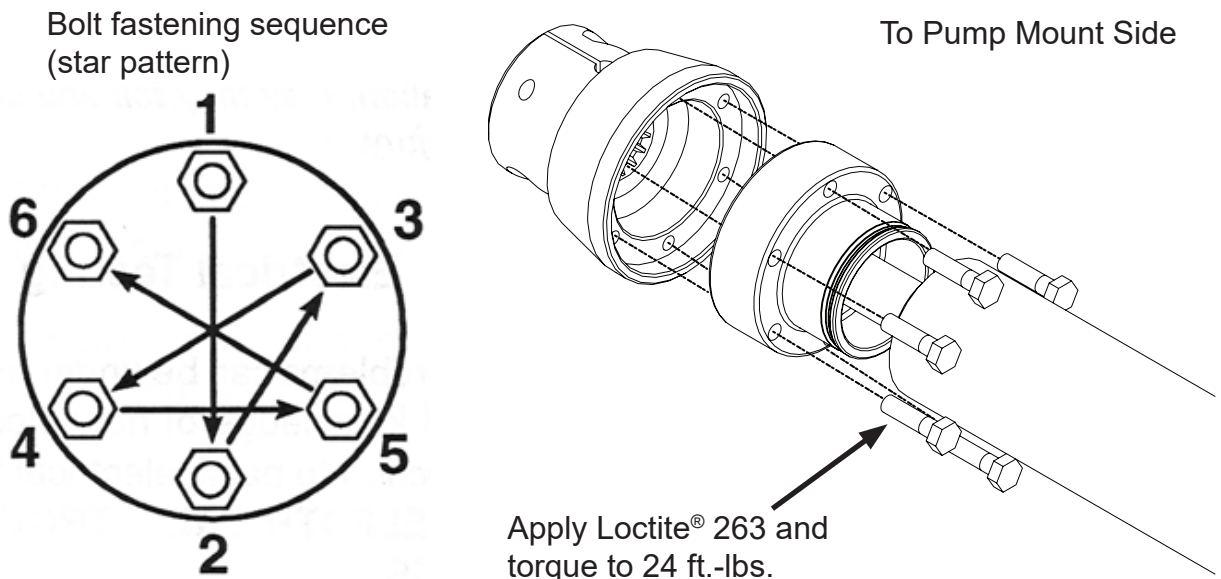

Figure 10
8. Apply Red Loctite® 263 to the new six (6) bolts.
9. Use these bolts to attach the Pump Mount adapter flange to the new CV shaft (Figure 10).